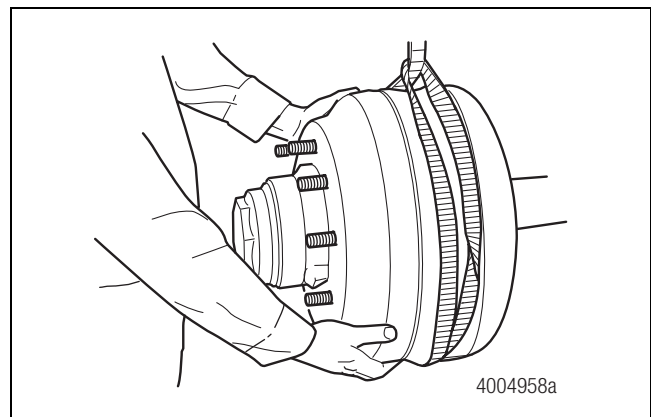

Figure 4.35
13. Install the brake drum and the tire and wheel assembly. Figure 4.35.